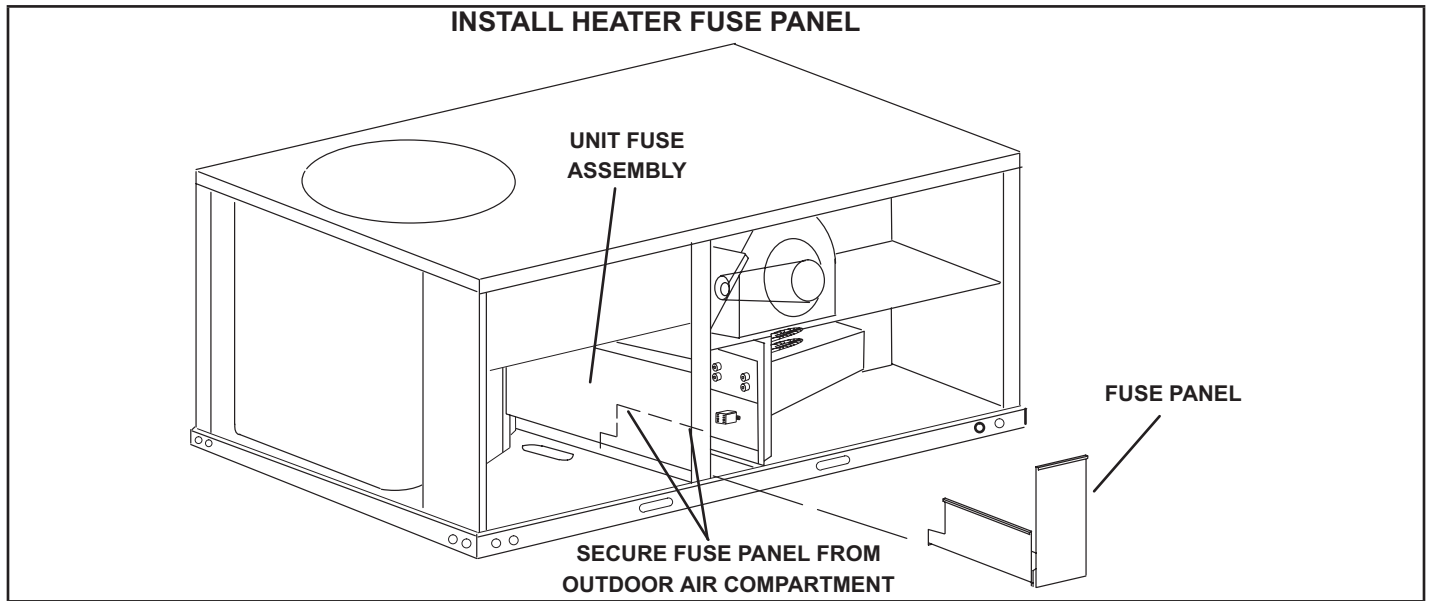
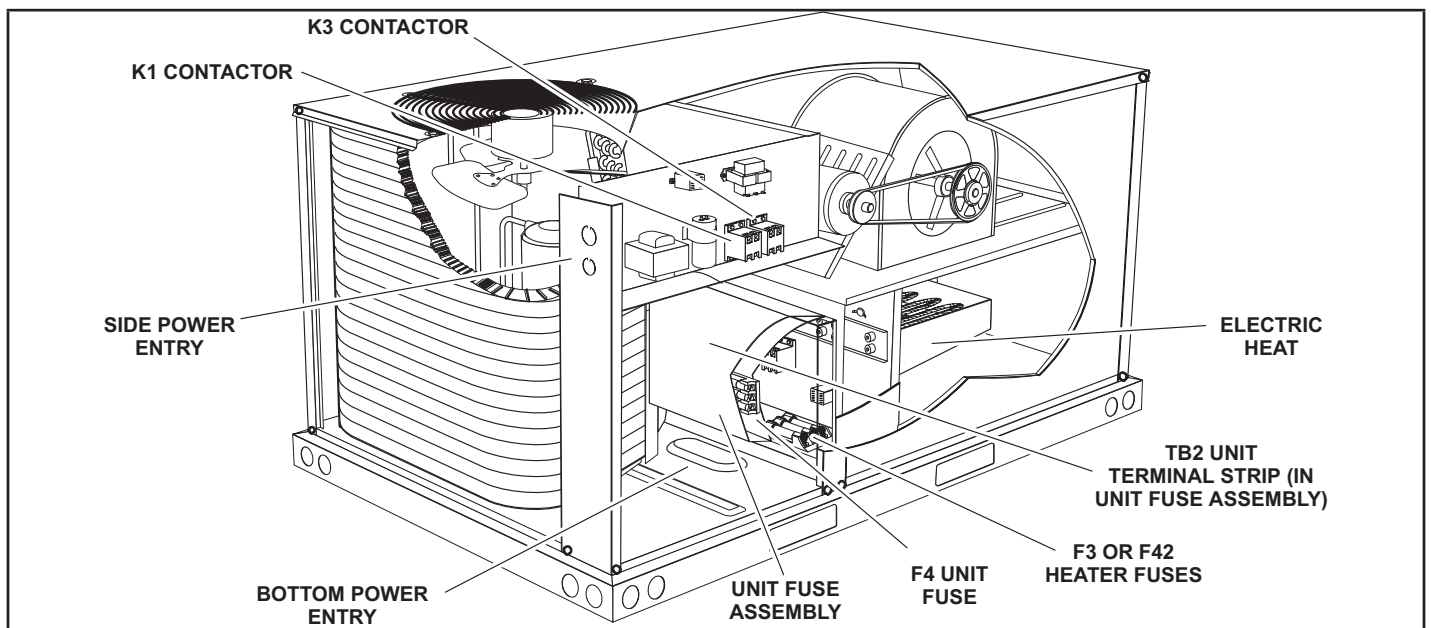

FIGURE 7
FIGURE 8
- 2 - Install heater fuse panel as shown in FIGURE 7. From the outdoor air compartment, secure to the unit fuse assembly with sheet metal screws. Also refer to FIGURE 8.